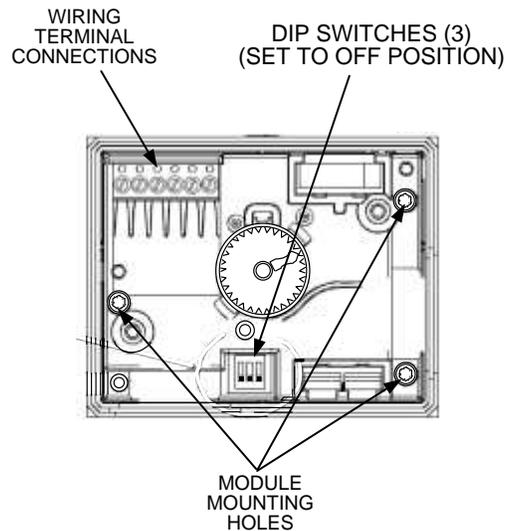

Figure 8-23. Electronics Module with Cover Removed
3. Remove the Module cover to access the wiring terminals (Figure 8-23). Disconnect and tag the power and control signal wire leads from the Module terminals.
4. Using a 3 mm Allen key, loosen the three (3) socket head screws securing the blue Electronics Module to the black Valve Head. These screws are recessed and the Allen key must be inserted into the holes shown in Figure 8-23 to engage the screw heads.
7. Refer to Figure 8-23 and ensure that the three (3) DIP switches on the replacement Module are all in the OFF (down) position.
7. While supporting Control Valve from above, loosen all three (3) unions securing the Valve.
9. Install the replacement Control Valve and ensure that the seals are not pinched. Hand-tighten the unions. NOTE: Two (2) pipe wrenches MUST be used when tightening the Valve unions to prevent pipe rotation and avoid leaks
10. Using two (2) pipe wrenches, secure the Control Valve unions to the Boiler Water piping.
11. Refer to Figure 8-23 and ensure that the three (3) DIP switches on the Electronics Module of the replacement Valve are all in the OFF (down) position.